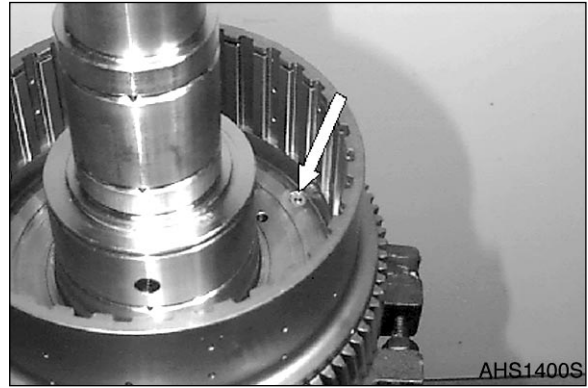
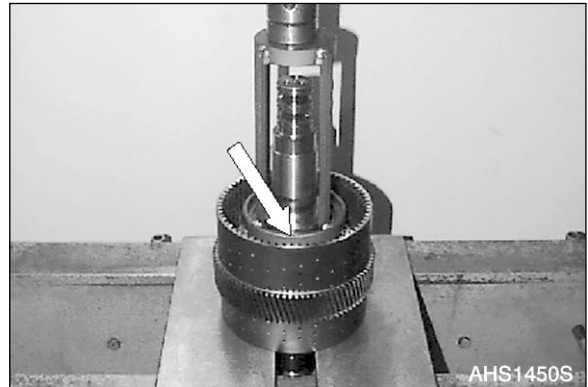

Figure 180
Figure 185
5. Insert purge valve (Figure 180) flush-mounted, with the chamfer facing downward.
13. Install purge valve, spool and compression spring on the opposite side (Clutch K4) accordingly, see Figure 180 - Figure 185.